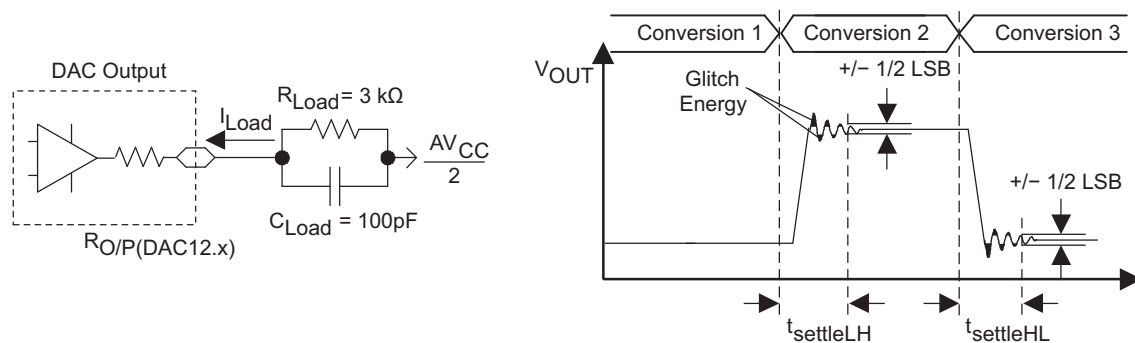
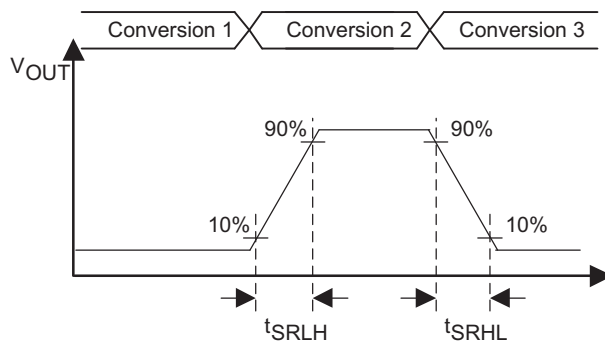

Figure 45. Settling Time and Glitch Energy Testing
Figure 46. Slew Rate Testing
$V_{REF} = V_{CC}$, DAC12IR = 1 (see Figure 45 and Figure 46), over recommended ranges of supply voltage and operating free-air temperature (unless otherwise noted)
(1) R_{Load} and C_{Load} are connected to AV_{SS} (not $AV_{CC}/2$) in Figure 45.
(2) Slew rate applies to output voltage steps ≥ 200 mV.